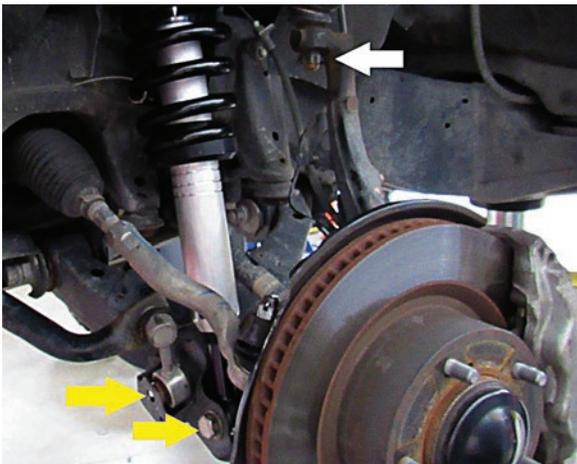

Figure 1: Front suspension (left side shown)
- *For models equipped with Toyota Kinetic Dynamic Suspension System (KDSS). Support the hydraulic ram on the driver side of sway bar with a jack, then remove the (4) bolts securing the sway bar to the lower control arms.
- 3a. Disconnect sway bar link from lower control arm. Do not discard OEM hardware. (Figure 1) 2nd arrow up from bottom of picture.
- 3b. Disconnect upper arm ball joint from spindle. (Figure 1) highest arrow. Warning: Upper control arm may spring upwards when disconnected. Tip: Mallet may free up ball joint / spindle connection. Secure spindle with bungee or rope to prevent stress on sensor wires and break hose. Retain OEM hardware for reuse.
- 3d. Remove bolt from lower arm / shock connection. (Figure 1) lowest arrow. Tip: Take care not to damage bolt threads. A pry bar may be helpful to droop the lower control arm to free the bolt.